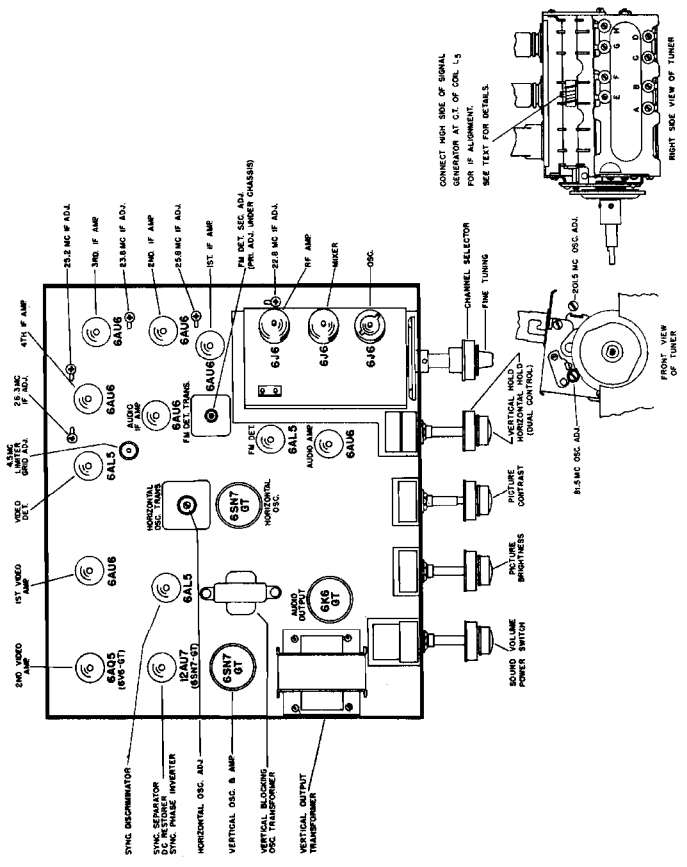

Fig. 11. Top view, alignment points
3. With the signal generator (unmodulated) set at 4.5 mc. set the 4.5 MC LIMITER GRID ADJ. and FM DET. PRI. ADJ. (See Fig. 11) for maximum d-c voltage as measured by the electronic voltmeter. Adjust the limiter grid coil (L-14) before adjusting the f-m detector transformer (T-1) primary. Use just enough signal generator output to obtain approximately one volt at the electronic voltmeter.
2. Connect the high side of the low frequency signal generator to the center tap of the H.F. mixer coil (L-5) through a 1200 mmfd condenser for isolation. Connect the generator ground to the tuning unit frame near coil (L-5). (See Fig. 11).